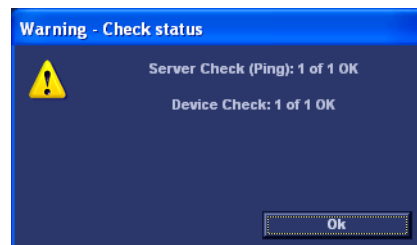

Figure 3-82 Test (Check) Passed
- If the test pass, a pop-up dialog, reporting the results as OK, is displayed, see Figure 3-82.